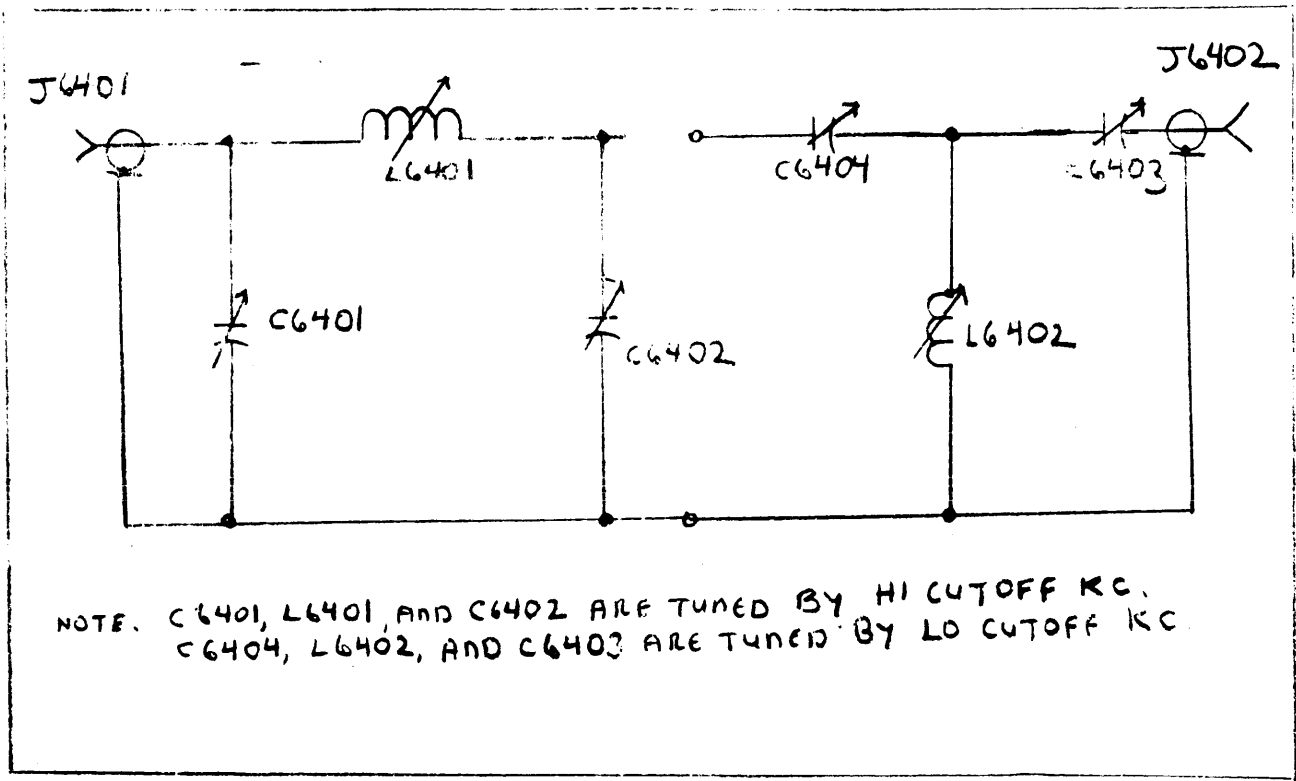

FIGURE 4-1. SIMPLIFIED BLOCK DIAGRAM
Figure 4-1 shows a simplified block diagram of the filter. Note that it's composed of a composite low pass pi filter and high pass(T) filter. All component values making up these two filters are varied by either the LO CUTOFF KC or HI CUTOFF KC controls.